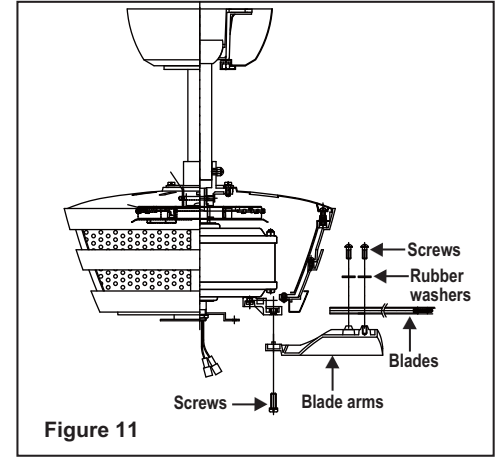

Figure 11
Step 1. Attach the blades to the blade arms using three screws and rubber washers as shown in Figure 11. Start a screw into the blade arm, do not tighten. Repeat for the 2 remaining screws and washers.